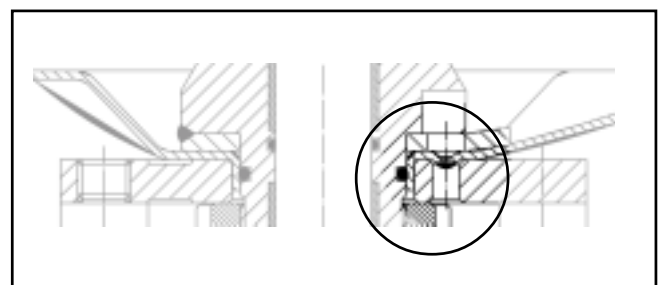

Fig. 2: Anti-rotation device
- 8.2.1.2 Replace the upper yoke plate ensuring that the nose in the lower body rests in the bore of the upper yoke plate (see fig. 2).
- 8.2.2.2 Replace the upper yoke plate ensuring that the nose in the lower body rests in the bore of the upper yoke plate (see fig. 2).